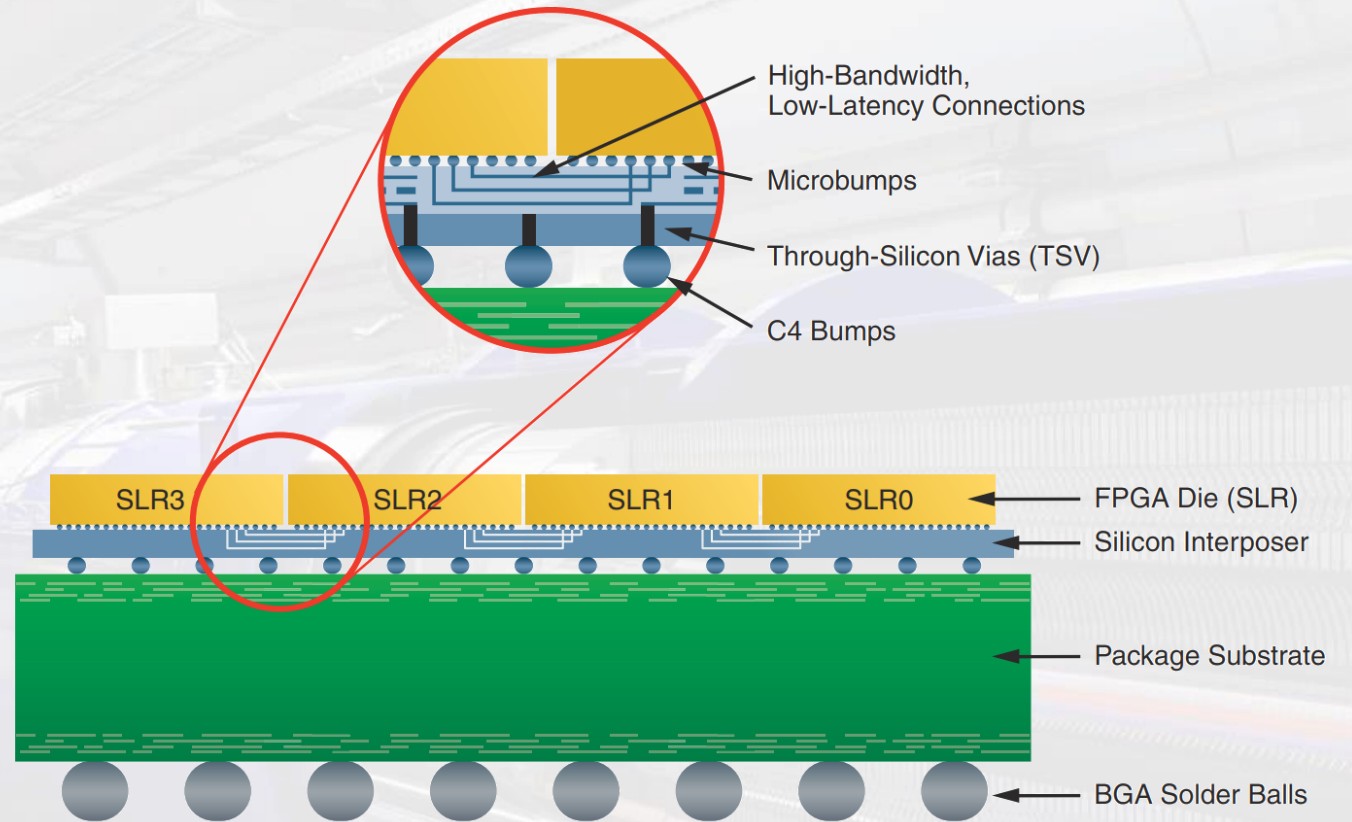

Fig 3: Xilinx FPGA Enabled by SSI Technology*
- The SSI technology integrate multiple Super Logic Region (SLR) components placed on a passive Silicon Interposer (fig 3).
- Gigabit Transceivers (GT)